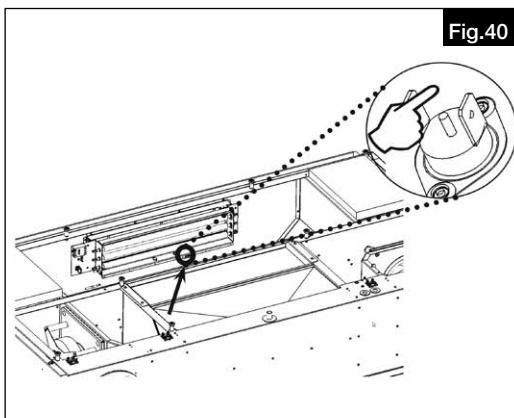

Fig.40
1. Press the reset button for the electrical post-heater (see Fig.40).